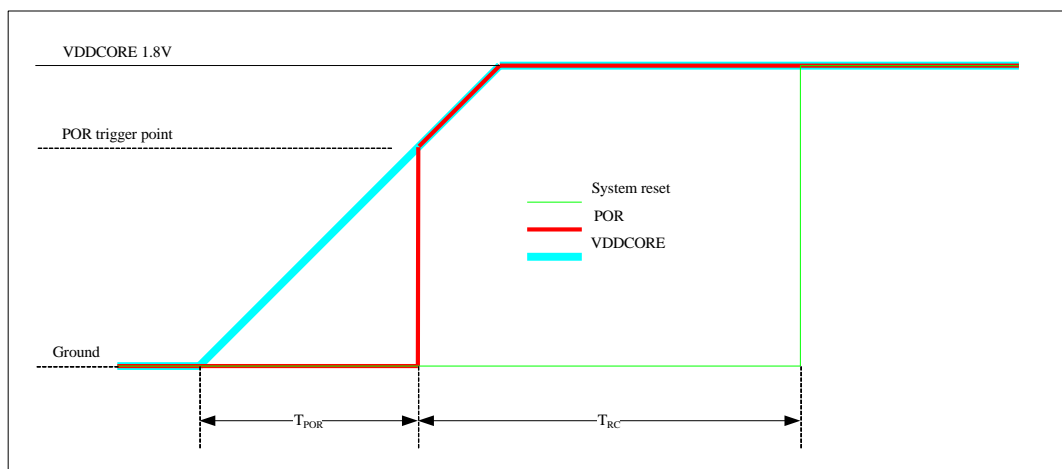

Figure 4-1 Power on reset
*Figure 4-1* illustrates the power-on and reset signals waveform during proper power-on. Internally, there is  $T_{POR}$  and  $T_{RC}$  time for both the POR circuit and the internal counter.  $T_{POR}$  is the time for the POR circuit to stay at zero voltage until it reaches  $V_{POR}$  and the time varies for different VDD rise-up time. It can be assumed to be about 2/3 of the VDD rise-up time.  $T_{RC}$  is the time for internal counter to count 4ms using internal RC-oscillator when the counter sees a high logic from PORB signal. As a result, the overall internal reset time is the sum of  $T_{POR}$  and  $T_{RC}$ . Such a long time is required to ensure the Power is stable for system use. It also ensures all internal logics are properly reset.